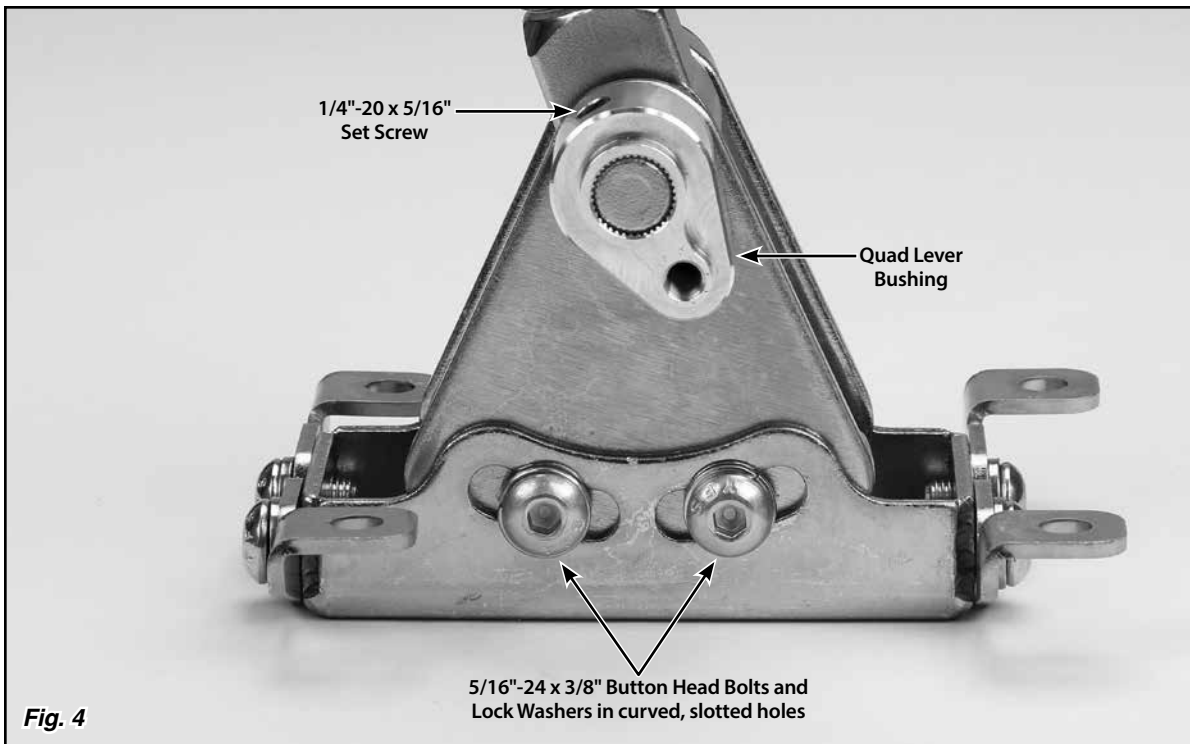

Fig. 4
Step 5: Make sure the two 5/16"-24 x 3/8" button head bolts and lock washers in the curved, slotted holes in the driver side of the floor mount mounting bracket are tight using a 3/16" Allen wrench. Place the Shifter in the desired location on the vehicle's floor. Make sure the shifter lever will not interfere with the dash when in Park, or with the seat when in low gear. The shifter assembly may be tilted forward or backward if needed by loosening the two 5/16"-24 x 3/8" button head bolts and lock washers in the curved, slotted holes in the driver side of the floor mount mounting bracket. Retighten the button head bolts and lock washers in the curved, slotted holes once you have the shifter assembly at the angle you want. **Fig. 4**